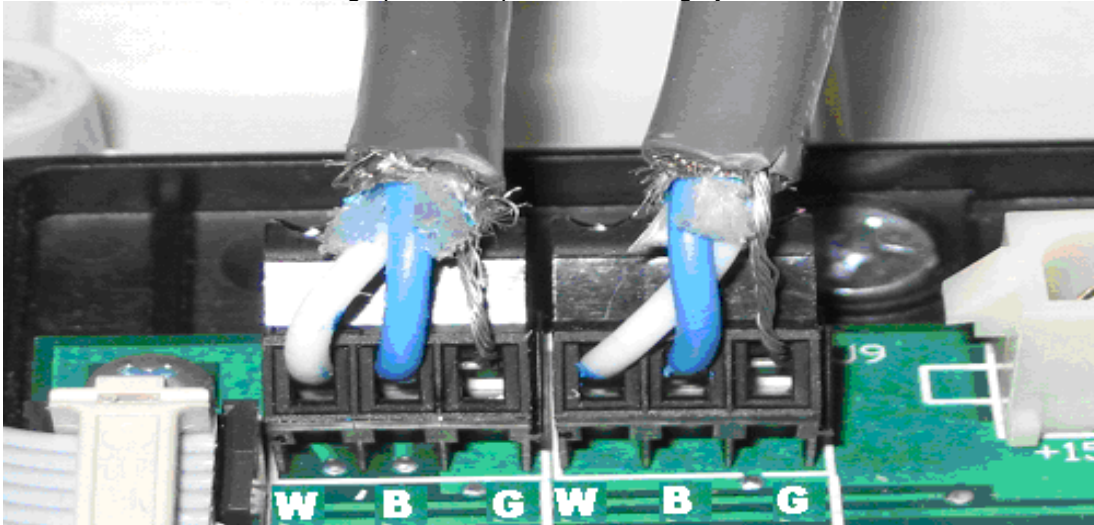
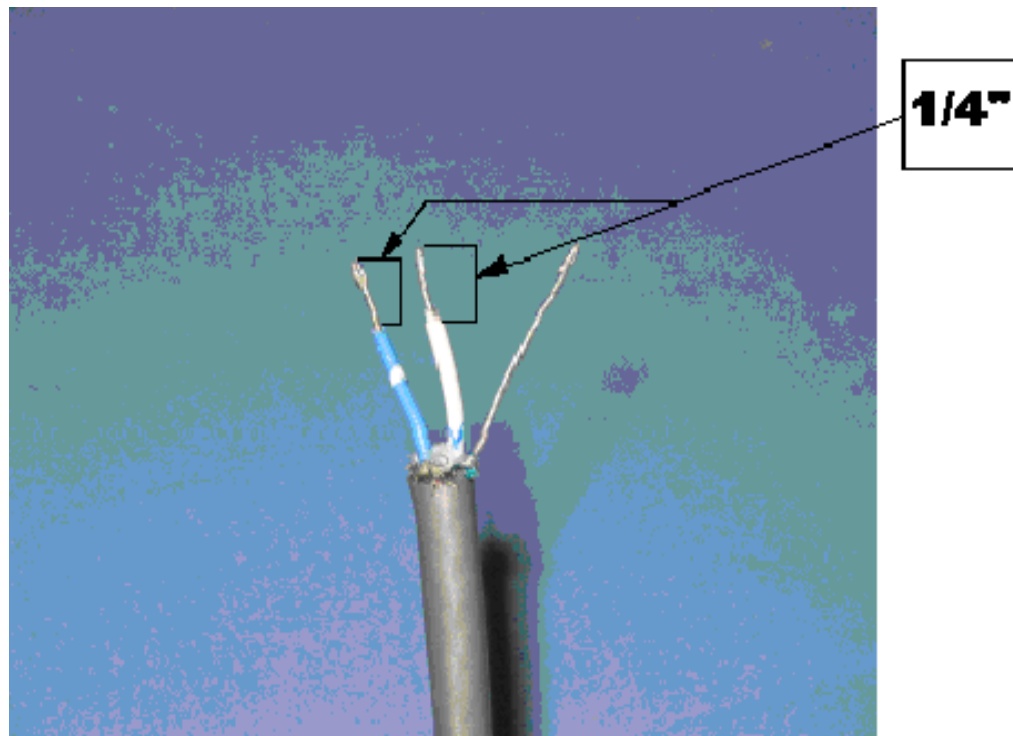

Figure 21
Figure 24
Connect the 3 pin power cable from the power supply to the J11 connector on the Control Module. Connect a ribbon cable from the J16 connector to the adjacent module. If the computer monitoring system is to be used connect the incoming RS-485 cable (Belden # 9841) to one of the terminal blocks J9 or J10. Connect the outgoing RS-485 cable to the other terminal block. The RS-485 can work out to 5,000 feet from Data Converter to the furthest panel. The shielding wire must be connected to the (G) position, the white wire to the (W) and the blue wire to the (B) position, as in figure 21. Be careful to ensure that there is no contact between the connections, short circuits can be very hard to find and will disable the communications. Carefully prepare the wire as shown in figure 24. See the PC Software Installation Manual for more details on setting up the computer monitoring system.